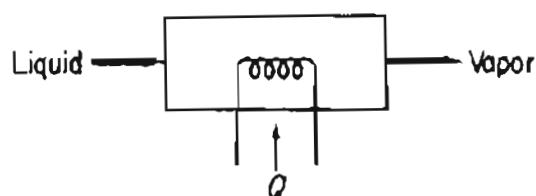

Figure P30.2
- 30.2** Determine the number of degrees of freedom for the reboiler shown in Figure P30.2. What variables should be specified to make the solution of the material and energy balances determinate?